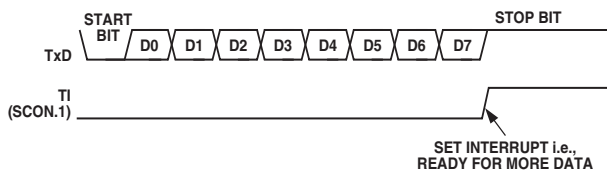

Figure 55. UART Serial Port Transmission, Mode 0
Transmission is initiated by writing to SBUF. The 'write to SBUF' signal also loads a 1 (stop bit) into the ninth bit position of the Transmit Shift Register. The data is output bit by bit until the stop bit appears on TxD and the transmit interrupt flag (TI) is automatically set as shown in Figure 55.